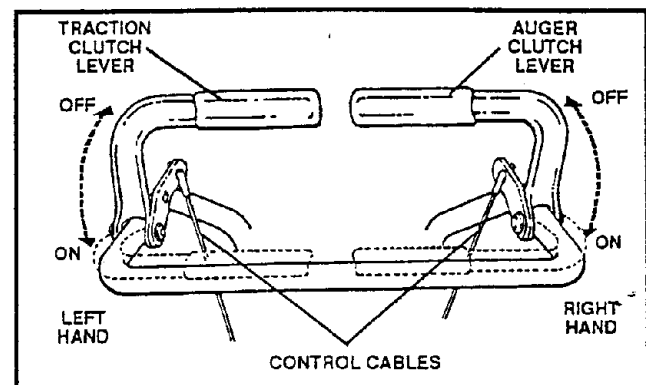

FIG. 4-OP
- To stop throwing snow, release the auger drive lever (See FIG. 4-OP).
- Engage the traction drive lever (See FIG. 4-OP, left hand). As the snow thrower starts to move, maintain a firm hold on the handles, and guide the snow thrower along the clearing path. Do not attempt to push the snow thrower.
- Push down the auger drive lever (See FIG. 4-OP, right hand).